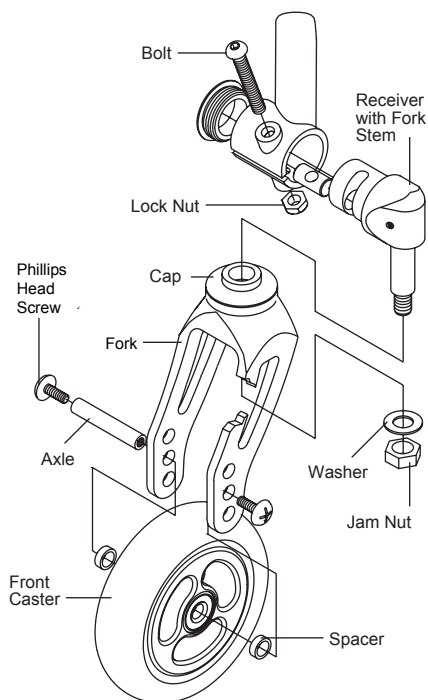
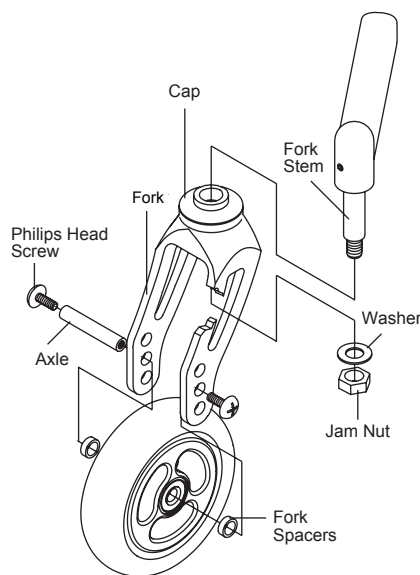

Figure 107
Figure 108
1. Remove the two Phillips head screws and axle that secure the front caster to the fork. **Note:** It will be necessary to use one Phillips head screw driver to hold one screw in place and a second screw driver to loosen the other screw. See Figures 107 and 108.
2. Loosen and remove the jam nut and washer that secures the fork to the fork stem. See Figure 107 (TR, YR and ZR wheelchairs) or Figure 108 (ZRA wheelchairs).